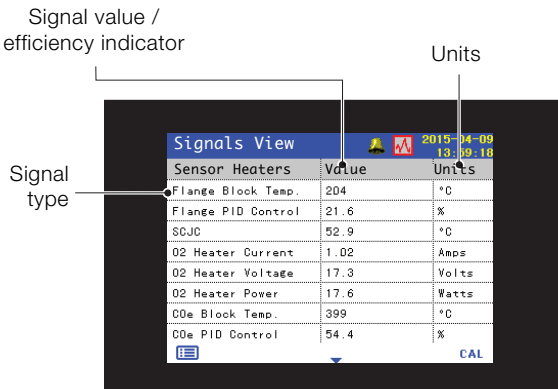

Fig. 29 Signals view
- *Signals view* – displays a list of active signals and their values (see Fig. 29)